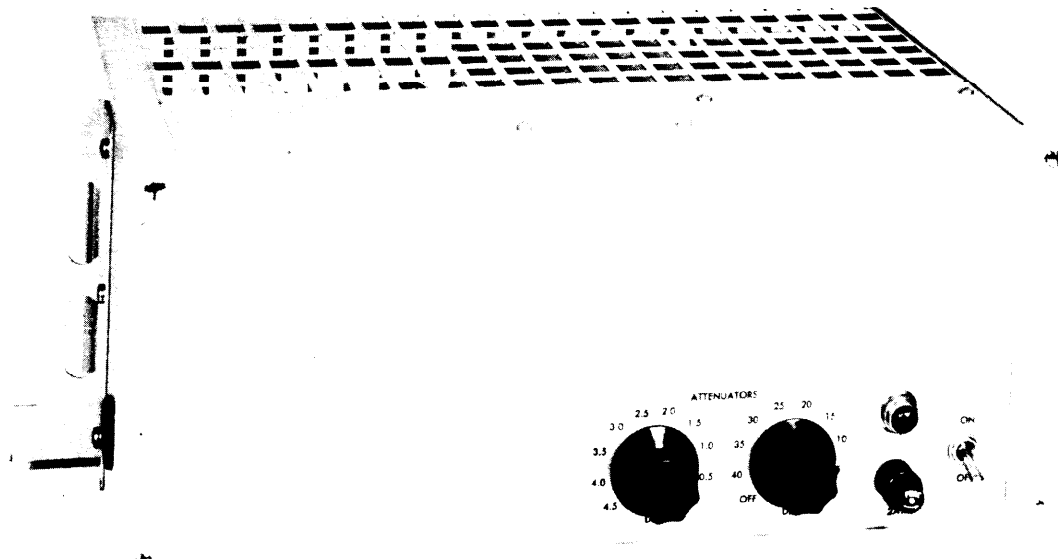
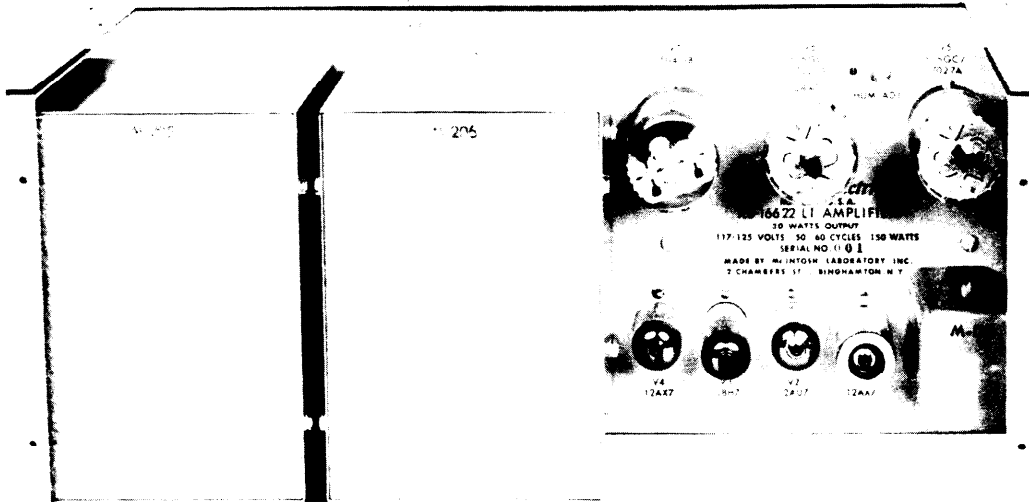
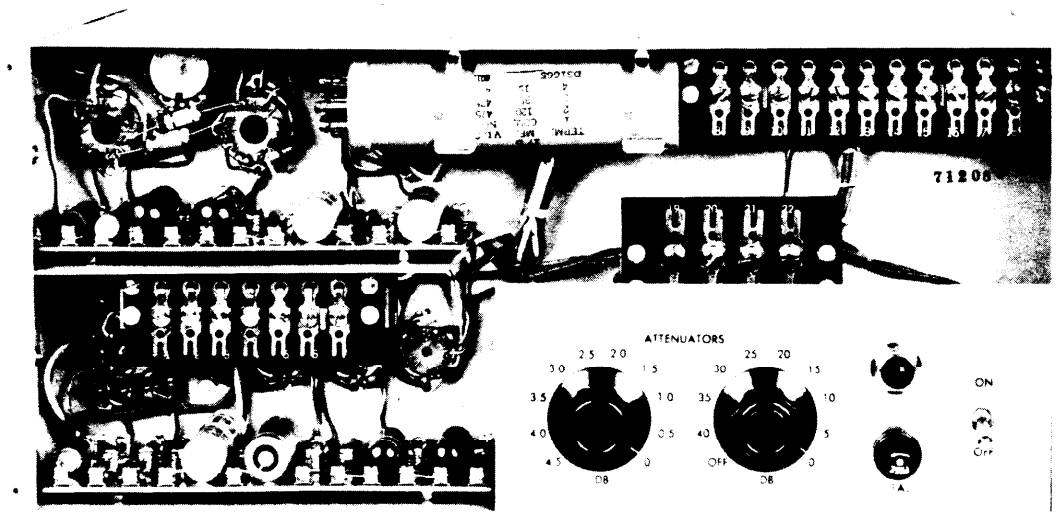

Fig. 1 — Front View of Amplifier
Fig. 2 - Rear View of Amplifier
Fig. 3 - Front View of Amplifier with Front Cover Removed
1.03 Fig. 1 shows the front view of the amplifier with the front and rear covers assembled. Fig. 2 shows a rear view of the unit with the perforated cover removed. Fig. 3 shows